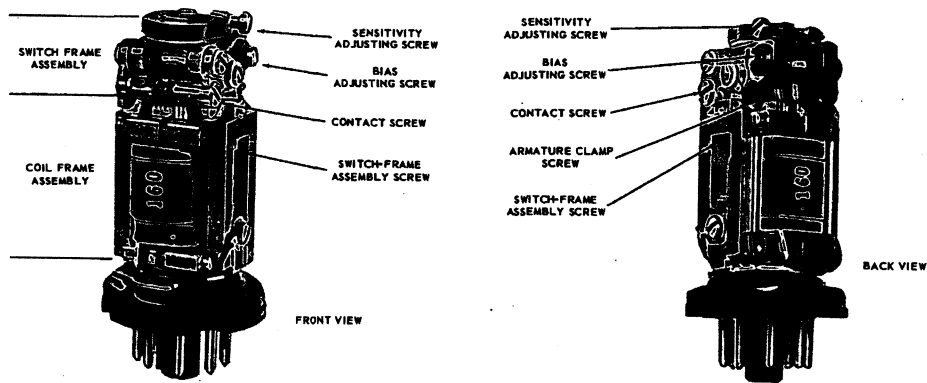
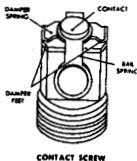

Figure 2-17.—Sigma Series 72AOZ relay.
Figure 2-18.—Contact Screw.
**2302. Field Maintenance.**—If the Sigma 72 relay is found to be the cause of trouble, remove it from its socket. Remove the relay cover and inspect the contact screws (fig. 2-17) using a good light and, if possible, a magnifying glass. If the contacts appear to be tarnished or burned, draw a piece of clean, hard paper between the mating surfaces to clean them. Do not file or burnish the contacts, since this can cause excessive stress on the contact damper springs in the subsequent clearance adjustments. If the contact surfaces are damaged by pitting or buildup, or if the contact damper springs (fig. 2-18) are damaged (unsymmetrical appearance, or clearance under damper feet), it will be necessary to replace the contact screws and the armature. Using the Sigma Relay Repair Kit No. AT36-1 (FSN 5945-587-5936) proceed as follows:
- b. Loosen the armature clamp screw (fig. 2-17) approximately one turn with a 1/16-inch tip screwdriver.
- p. Adjust the bias adjusting screw (fig. 2-17) until the armature remains on either contact (when transferred manually) and the forces required to move the armature in either direction are as nearly equal as possible. To achieve near equality, a gram gage should be used to measure the force or pull required to move the armature. (Newer type relays have two bias adjusting screws with no sensitivity adjusting screw. To adjust bias on these, loosen one screw and tighten the other.)